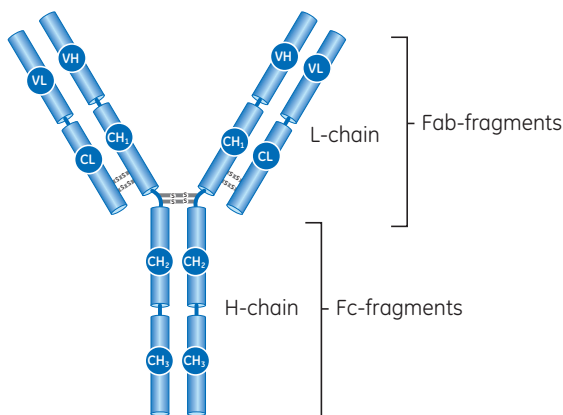

Fig 1.1. Basic H₂L₂ structure of a typical immunoglobulin.
All immunoglobulins, independent of their specificity, have a common structure with four polypeptide chains: two identical heavy (H) chains, each carrying covalently attached oligosaccharide groups; and two identical, nonglycosylated light (L) chains. A disulfide bond joins a heavy chain and a light chain together. The heavy chains are also joined to each other by disulfide bonds. These disulfide bonds are located in a flexible region of the heavy chain known as the *hinge*, a region of approximately 12 amino acids that is exposed to enzymatic or chemical cleavage. Each globular region formed by the folding of the polypeptide chains as a result of the disulfide bonding is termed a *domain*. All four polypeptide chains contain constant (C) and variable (V) regions, found at the carboxyl and amino terminal portions, respectively. Heavy and light chains have a single V region. Heavy chains contain three C regions while light chains possess a single C region. The V regions of both heavy and light chains combine to form two identical antigen binding sites (the parts of the antibody which bind the antigen). Effector functions of antibodies, such as placental transport or antigen-dependent cellular toxicity, are mediated by structural determinants within the Fc region of the immunoglobulin. Figure 1.1 illustrates the basic H₂L₂ structure of a typical immunoglobulin.